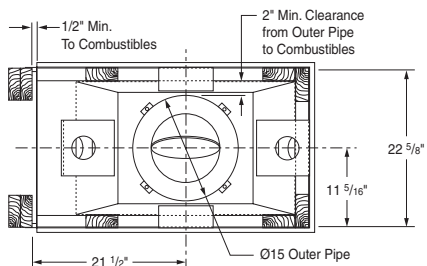

Figure 5 - Framing Clearances
1. Frame the opening for the fireplace using the dimensions shown in Figures 5, 7 and 8 depending on your installation.